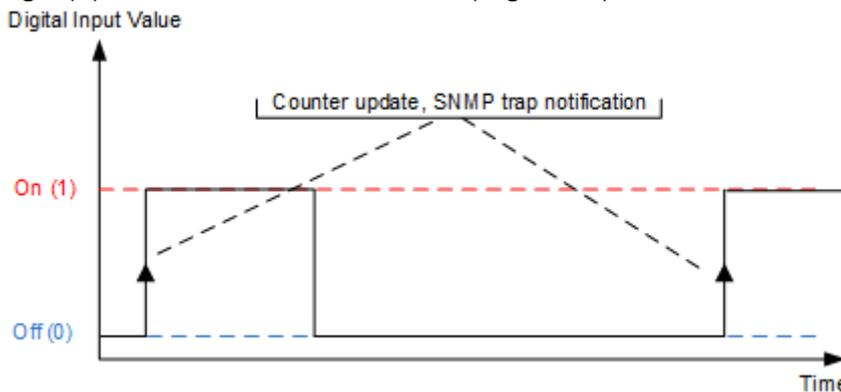
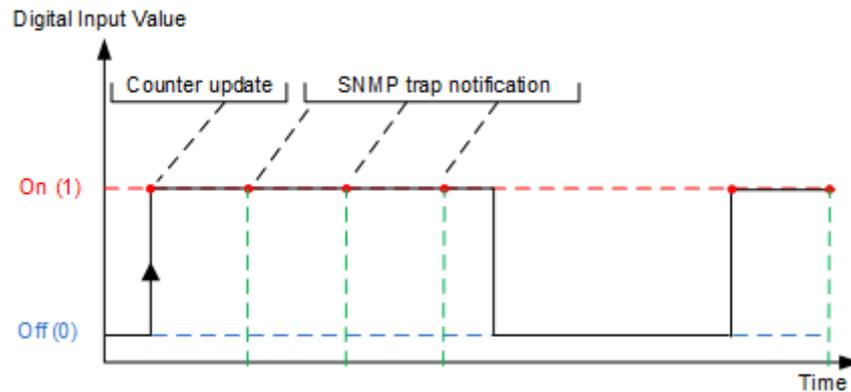

Figure 7.15. SNMP Trap Value="1 (On)", Trap Sending="Edge Triggered"
Figure 7.16. SNMP Trap Value="1 (On)", Trap Sending="Level Triggered"
- 1 (On) – the **Counter** is incremented on the rising edge (0 -> 1). With **SNMP Trap** enabled and **Trap Sending="Edge Triggered"** the rising edge triggers a trap message (Fig. 7.15). With **SNMP Trap** enabled and **Trap Sending="Level Triggered"** the trap message is sent while the Digital Input is high (1) in intervals of 5 seconds (Fig. 7.16).